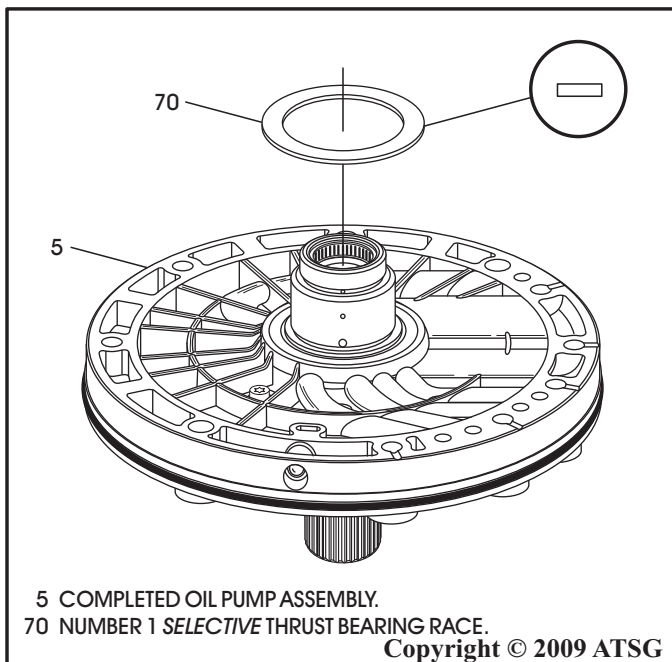

Figure 226
74. Install number 1 selective thrust bearing race on the pre-assembled oil pump assembly, as shown in Figure 226.
79. Install the proper number 1 selective thrust bearing race, as shown in Figure 226, and retain with a small amount of Trans-Jel®.